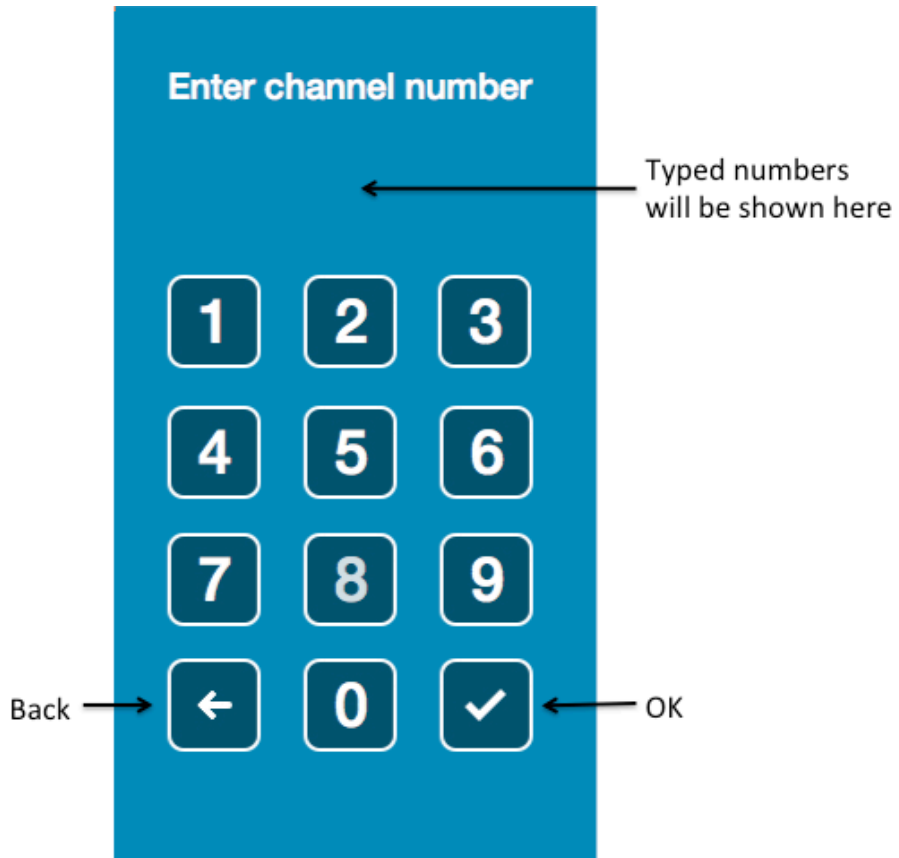

Figure 3 - Touch panel in Keypad mode for channel selection
- on the keypad screen (see **Figure 3**) enter the channel number,